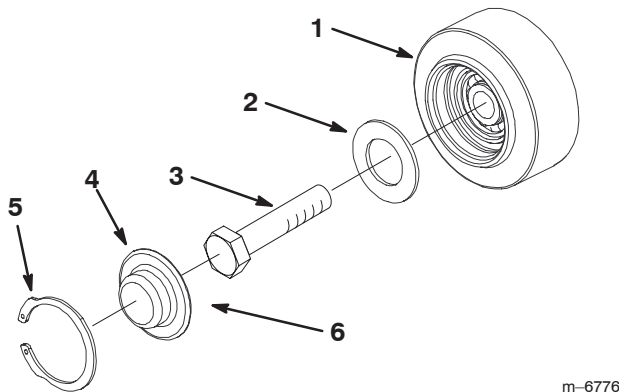

Figure 51
3. Remove the snap ring and cap from a road wheel (Fig. 51).
4. Check the grease under the cap and around the gasket (Fig. 51). If it is dirty, gritty, or depleted, clean out all of the grease, replace the gasket, and add new grease.
6. Place the greased road wheel cap over the bolt head (Fig. 51).
7. Secure the road wheel cap with the snap ring (Fig. 51).